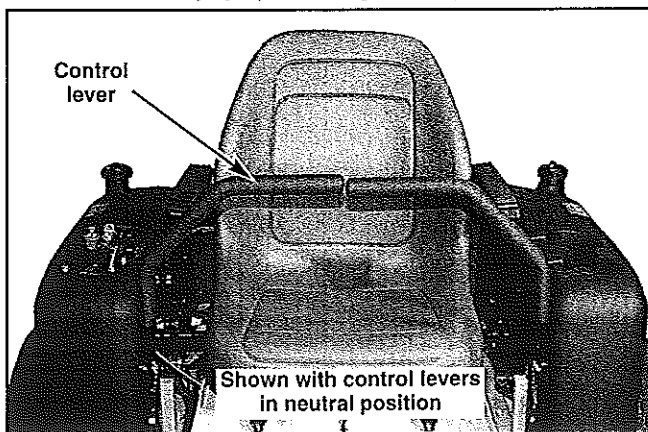

Figure 3-2
A. **Control levers (Fig. 3-2 & 3-3)** — these levers control the tractor's speed, direction, neutral lock, and park brake. Levers are used to steer, accelerate, decelerate and change direction. When the control levers are in the park brake position (3-3) the tractor will not move when the engine is on and drive pumps are operating.